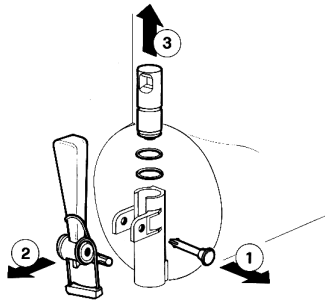

figure 11
6 Dismantle the faucet assembly (see figure 11).
- 3 Assemble the faucet by reversing the disassembly steps (see figure 11)